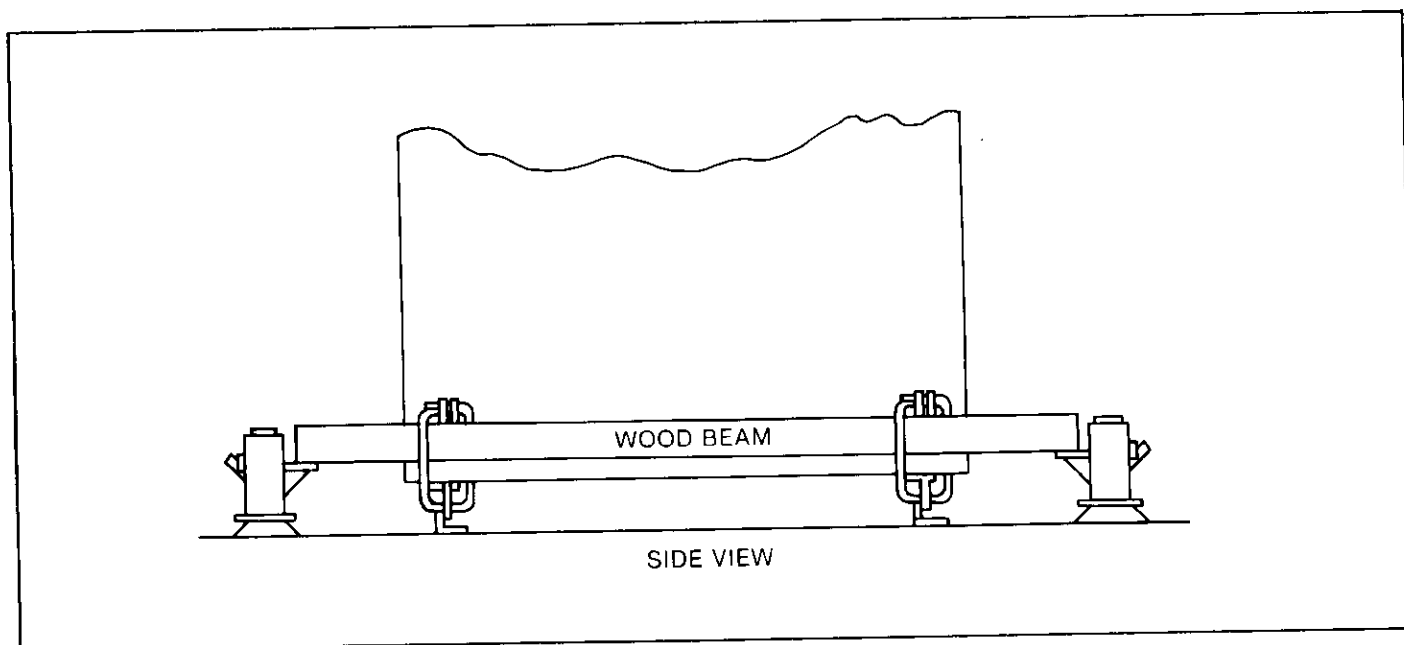

Fig. 2-9. Recommended method of jacking AKD-8 outdoor equipments
1. Place a jack under the front and rear corners of one end of the line-up. Figures 2-9 and 2-10 illustrate the use of jacks with outdoor equipment.